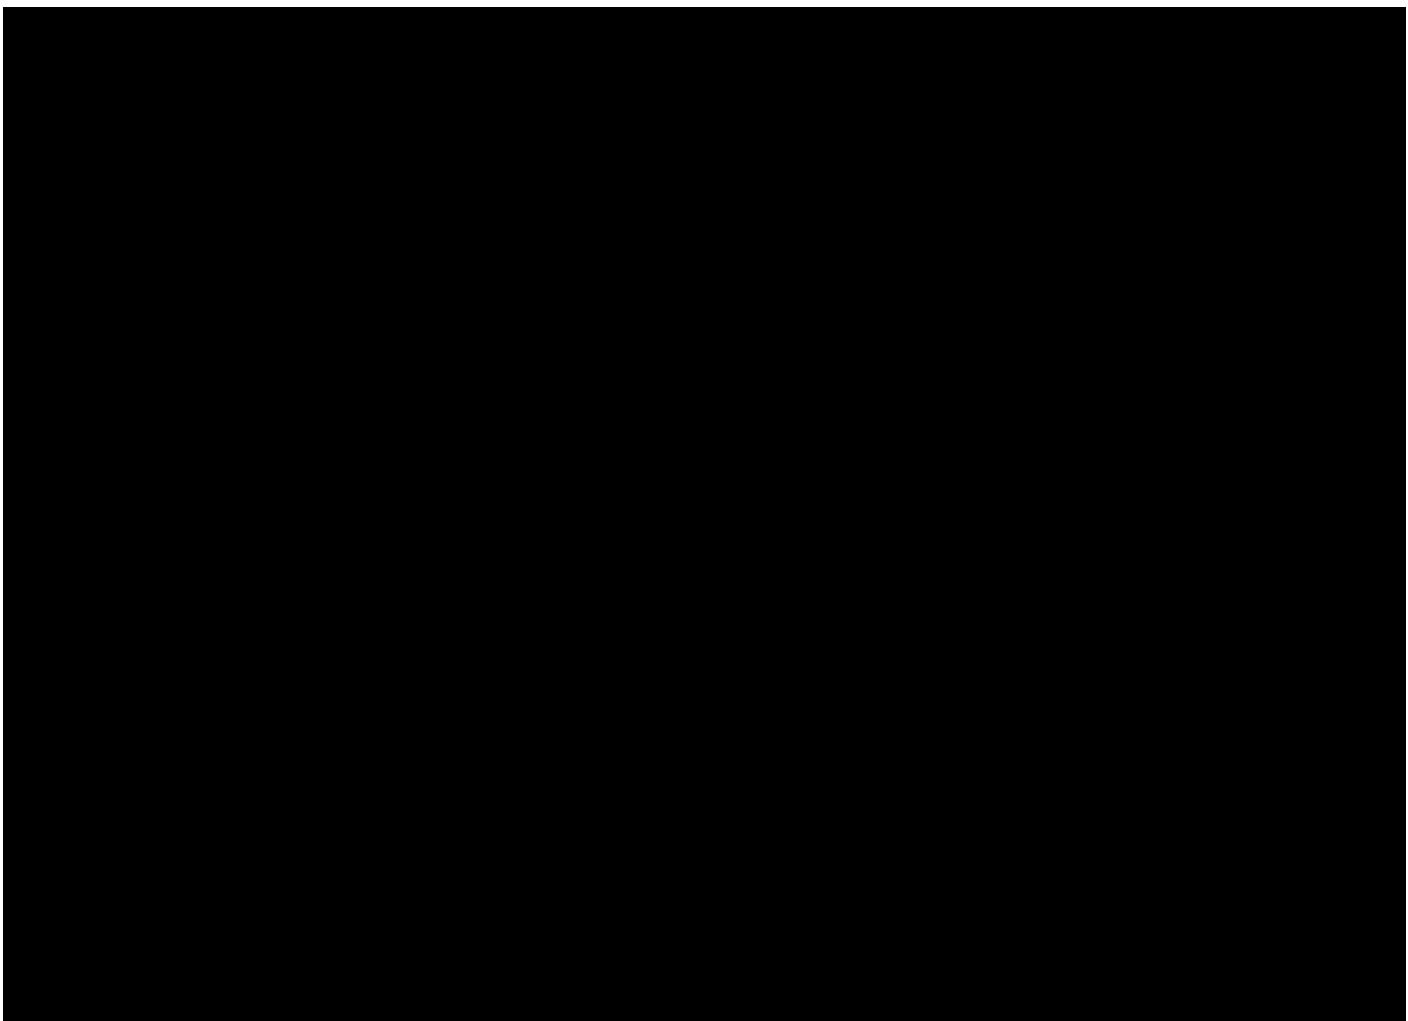

Figure 10-8 Data bus transceiver circuit.
- Data bus transceiver/buffer (see figure 10-8).
Figure 10-8 shows a circuit that implements the data bus transceiver block of the bus interface circuit using the 74LS245. For the 16-bit data bus of the 8086 microcomputer, two devices are required.